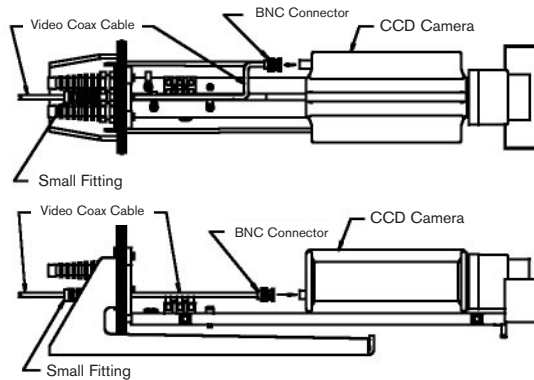

FIGURE 11 Video Coax Connection
1. Install the long flexible portion of the small liquid-tight fitting on the video coax cable and pull the cable through the small fitting on the rear end of the base assembly. The fitting will accept cables with diameters from 4.6mm (0.181in.) to 7.9mm (0.312in.). See FIGURE 11.
1. Install the long flexible portion of a large liquid-tight fitting on the video coax cable and pull the cable through the large right fitting on the rear end of the base assembly. Refer to FIGURES 11 and 12.